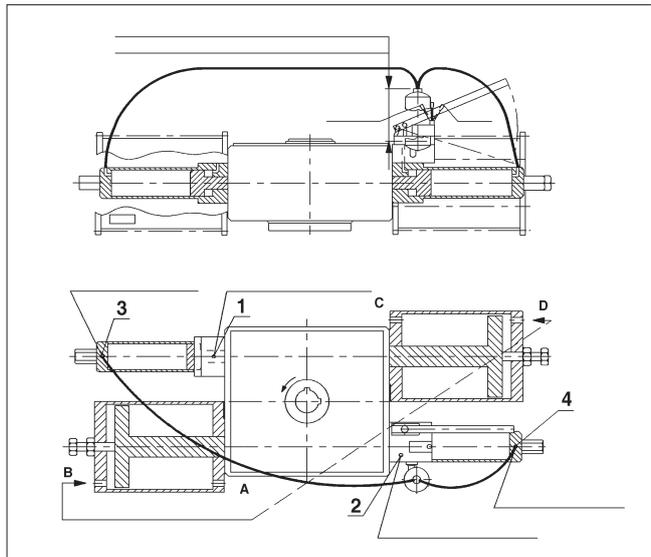

Fig. 24 Valve is closed, operation to open direction
- Operate actuator to open position; pneumatic supply as shown in Fig. 24.
- If actuator is fitted with two by-pass valves (200), open these (lever parallel with pipe).
- Close bleed screws 1 and 2, connect bleed hoses to points 3 and 4 as in Fig. 24 and open these bleed screws (3 and 4) about 20-30°.
- Connect pneumatic supply as in Fig. 24 to operate valve to open direction. Watch oil level; it must remain over the suction pipe at the bottom. Add oil, there should still be room for about one litre. Operate valve fully open.